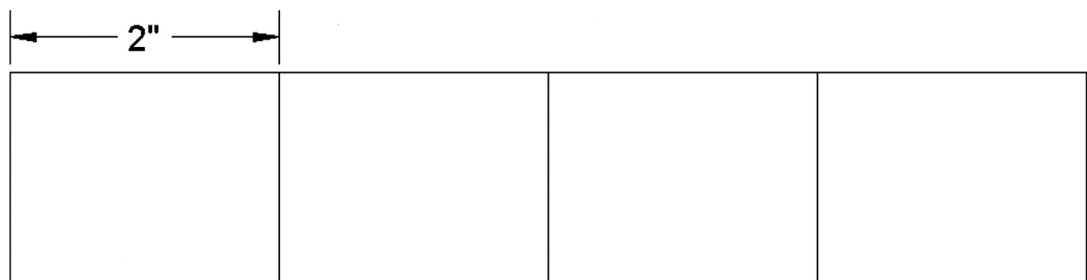

FIGURE 6.9
The next step is to draw one horizontal linear dimension as you already have done (it could have easily been a vertical line, too, if the rectangles were stacked vertically). Locate it about where you would like the entire string to go, as seen in Figure 6.9.
- Step 1.** Once you have the squares and one linear dimension, as seen in Figure 6.9, start up the continuous command via any of the preceding methods.
The baseline dimension, as mentioned before, is very similar in principle to the continuous dimension. The goal is to make a neat stack of evenly spaced dimensions that all start at one point (the *base* in *baseline*). To begin, erase the previous continuous dimensions (leaving the squares) and once again draw one linear (horizontal) dimension, as seen before in Figure 6.9.